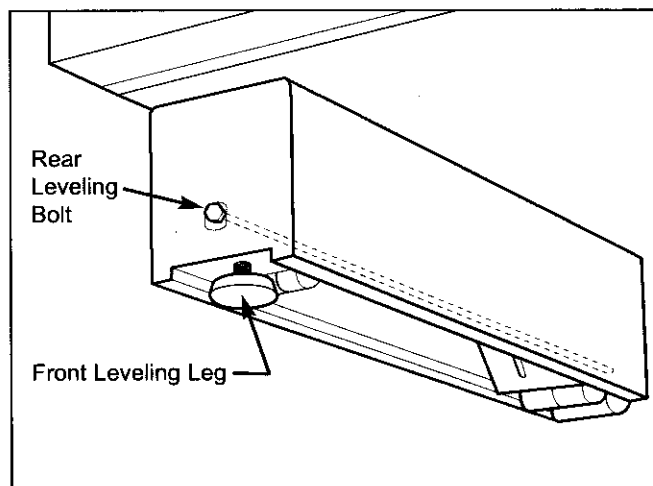

Figure 2-9. Unit Leveling
2. To raise unit front, turn front leveler legs clockwise to raise, counterclockwise to lower (See Figure 2-9).
3. Rear adjustment can be completed from the front of unit through unit base. To raise unit rear, use 3/8" (10 mm) socket wrench with an extension to turn rear leveling bolt clockwise to raise, counterclockwise to lower (See Figure 2-9).